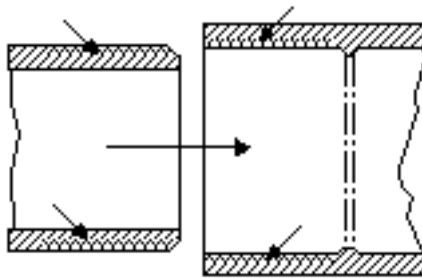

Fig. 1 Areas of Hose and Fittings to be Softened (Dissolved) and Penetrated
5.1.5.2 Penetration and dissolving can be achieved by the cement itself, by a suitable primer, or by the use of both primer and cement. A suitable primer will penetrate and dissolve the plastic more quickly than cement alone. In cold weather more time and additional applications are required (see Fig. 1).